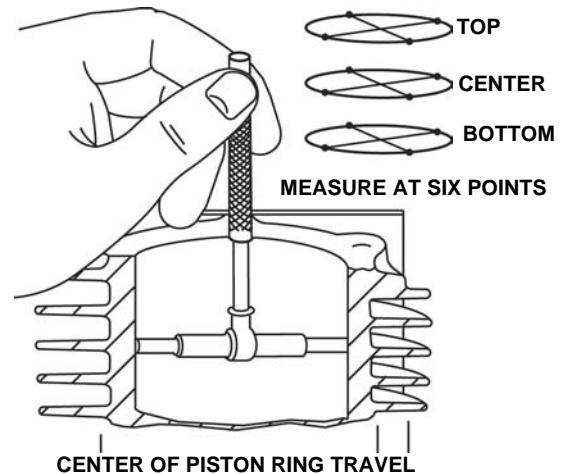

Fig. 65
- a. Measure cylinder bore in 6 points at right angles as shown, Fig. 65.